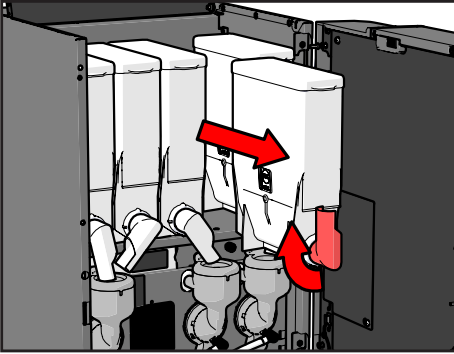

Figure 41.
7. Turn the canister spouts upwards and remove the canisters from the machine one by one (see Figure 41).